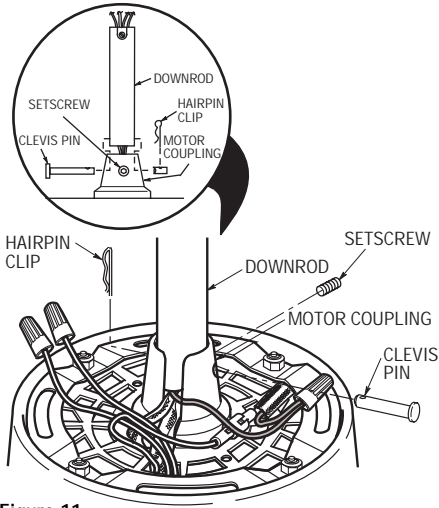

Figure 11
- Separate, untwist and unkink the 80" white, black, and blue motor lead wires. Route the three motor leads and the 80" yellow lead wire (used only on fans with upright) through the downrod. Seat the downrod firmly in the motor coupling (Figure 11).
- Align the clevis pin holes in the downrod with the holes in the motor coupling. Install the clevis pin (supplied with the ceiling fan) and secure with the hairpin clip (Figure 11). The clevis pin must go through the holes in the motor coupling and the holes in the downrod. Push the straight leg of the hairpin clip through the hole near the end of the clevis pin until the curved portion of the hairpin clip snaps around the clevis pin.
- Install the setscrew (supplied with ceiling fan) in the motor coupling (Figure 11). While pulling up on the downrod, tighten the setscrew using the 5/32" setscrew wrench (supplied with ceiling fan).